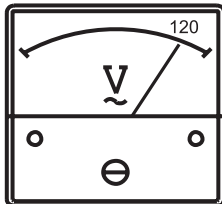

Figure 36. Voltmeter
11. The generator's **AC voltmeter** (Figure 36) will display the generator's output in **VOLTS**.